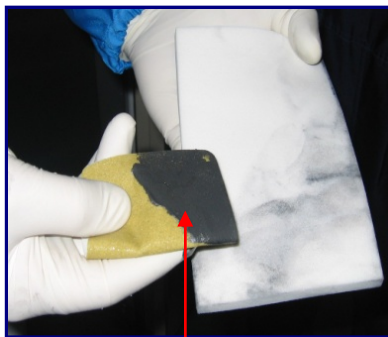

Fig 5: ScrubPAD loaded with Deposition
Step 9: As ScrubPAD loads up with deposition, pull across dampened UltraSOLV[®] Sponge to unload ScrubPAD (See Fig 5, 6 & 7)